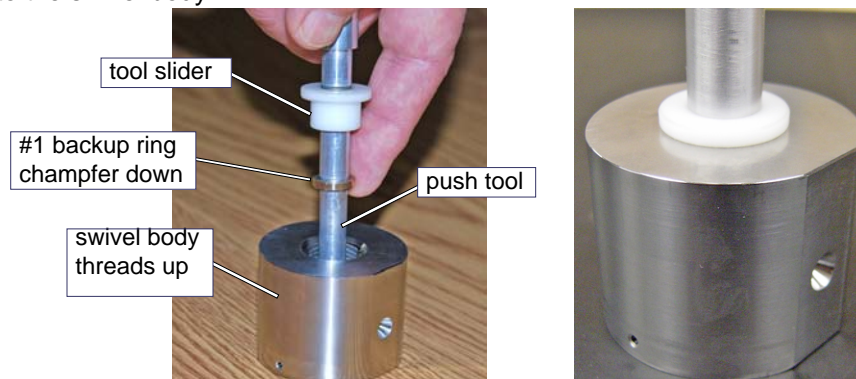

Figure 105
- b. Place the swivel body down on the workbench, threaded hole up. Hold the backup ring and slider (Figure 105) in place on the push tool with your finger. Then insert the push tool slider backup ring into the swivel body